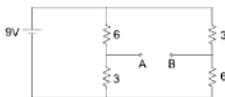

Fig. A2-4
4. The Thevenin's equivalent across point AB in Fig. A2-4 is given by V_{th} and R_{th} . Their values are: